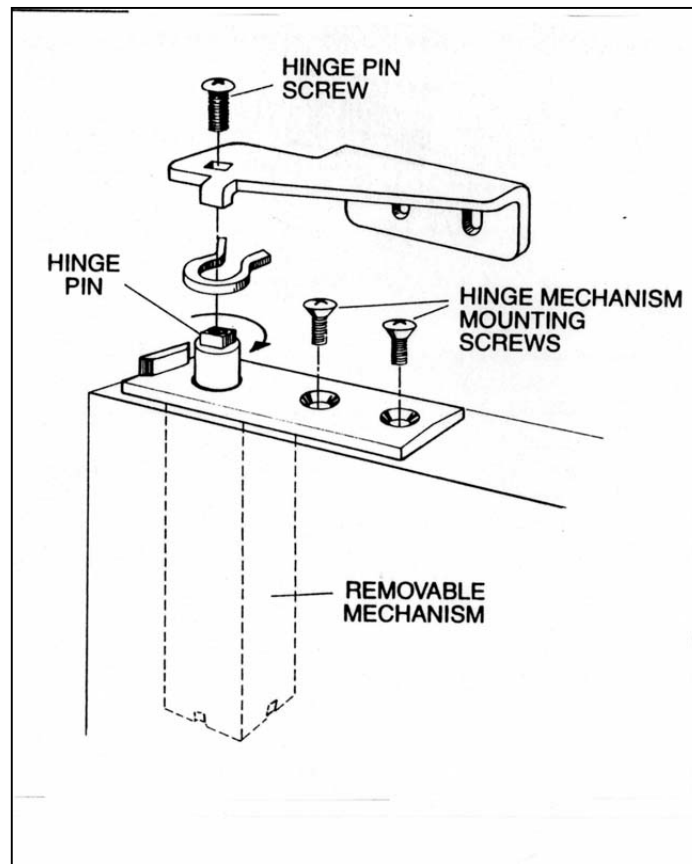

FIGURE 6
For proper operation of the self-closing doors on all sandwich unit and prep models, the hinge mechanism must be mounted to apply tension in the direction shown in figure 6. When the hinge is moved to the open-door position the hinge should be tension-free. However, when the hinge is moved back into the closed position, it should snap back. Caution should be taken when checking the spring loading as the hinge could snap back on fingers. If the hinge does not respond as described above, follow these steps:
2. Remount the hinge as shown in figure 6.
To remove the hinge mechanism from the door, remove the door from the cabinet as explained above. As shown in figure 6, remove the hinge plate from the hinge mechanism by removing the hinge pin screw. Also remove the horseshoe spring. Reinstall the hinge pin screw only partially leaving about 1/8" of exposed screw threads. Now, the hinge mechanism mounting screws can be removed thus allowing the mechanism to be removed by pulling on the hinge pin screw. If the mechanism does not readily slide out of the door, slide a claw hammer or forked prybar under the hinge pin screw head and using a block of wood for leverage, lift the entire mechanism out of the door. To install the new hinge mechanism, reverse the above procedure.